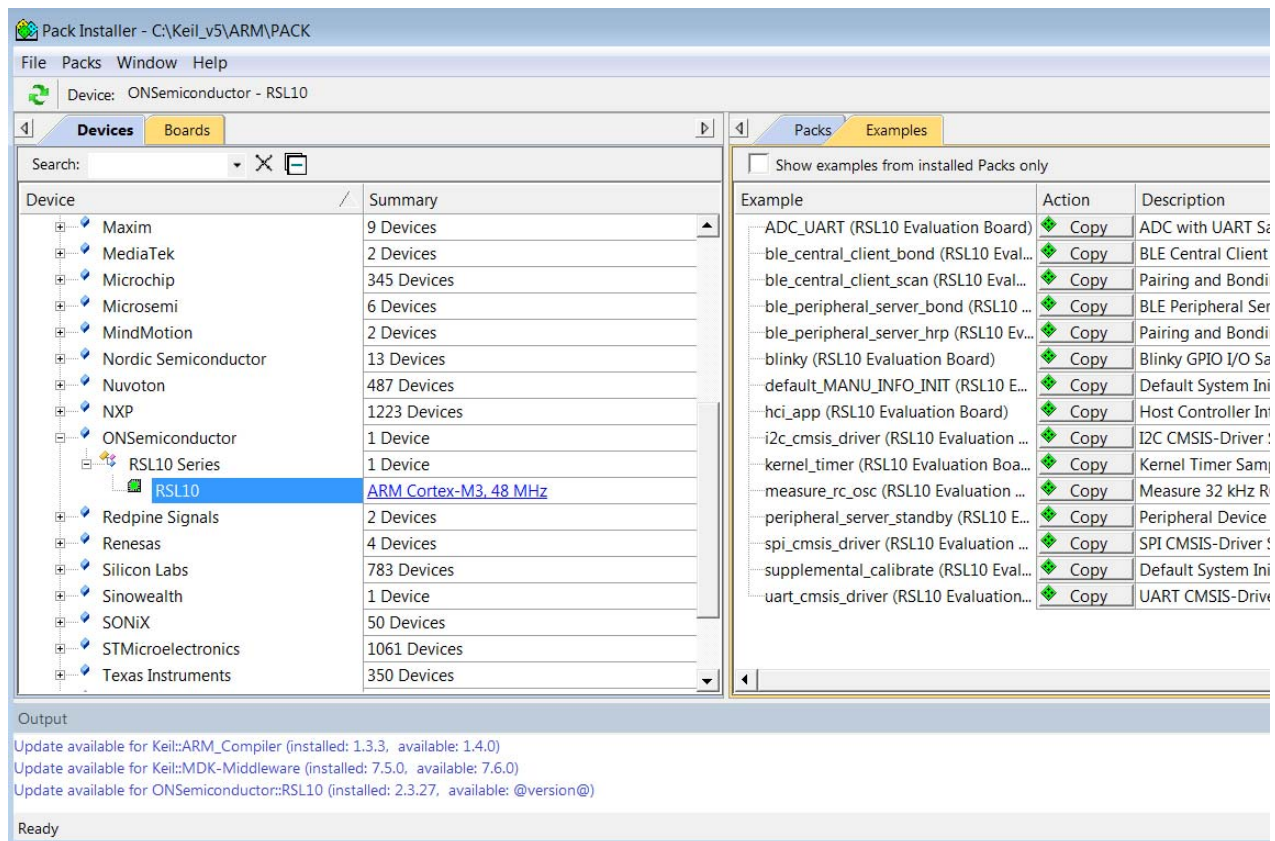

Figure 19. Pack Installer after RSL10 CMSIS-Pack is Installed in the Keil μ Vision IDE
5. The RSL10 CMSIS-Pack now appears in the list of installed packs. In the **Devices** tab, if you expand **All Devices > ON Semiconductor > RSL10 Series**, you can see RSL10 listed there. You can manage your installed packs in the **Packs** tab. Expanding *ON Semiconductor.RSL10* makes the **Pack Properties** tab display the details of the RSL10 CMSIS-Pack. Figure 19 on page 20 illustrates what the Pack Installer perspective looks like after installation.